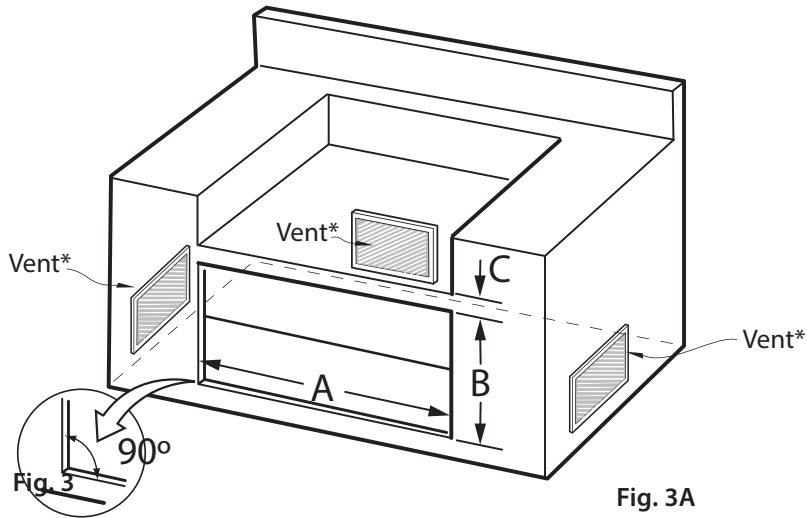

Fig. 3A
1. Make a cut-out in your cabinet or island with the following dimensions (Fig. 3A):